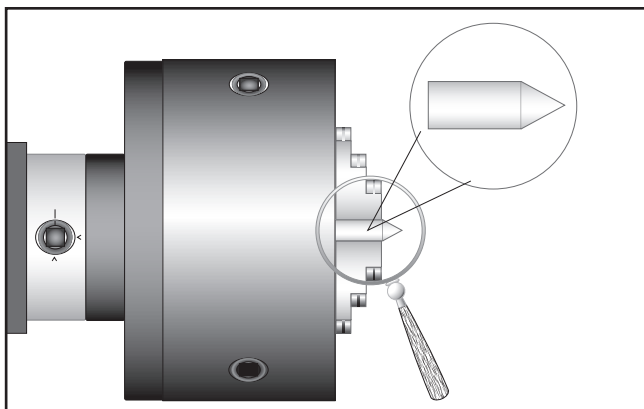

Figure 38. Finished dead center.
2. Make a dead center by turning a shoulder to make a shank. Flip the piece over in the chuck and turn a 60° point (see **Figure 38**). As long as it remains in the chuck, the point of your center will be accurate to the spindle axis.